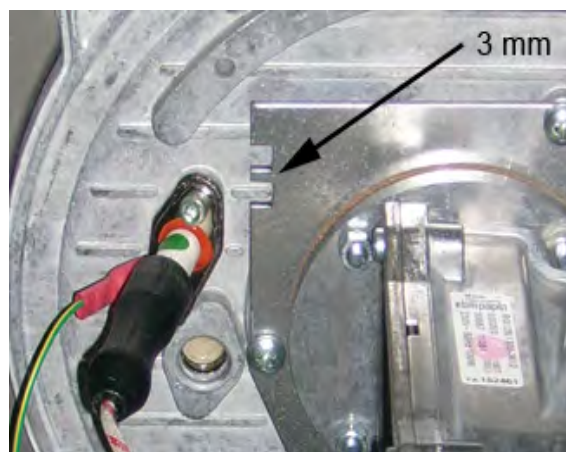

Fig 12.0
- Undo the two screws retaining the electrode assembly and carefully withdraw. The spark gap should be 3.0 mm ± 0.5 mm (See Fig 12.0)